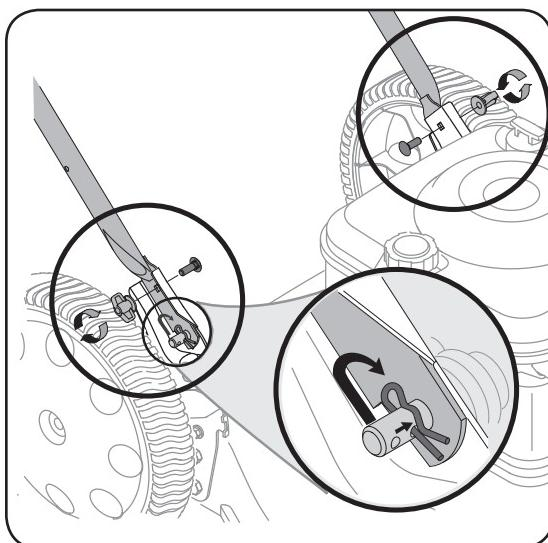

Figure 2
b. Place one carriage bolt (found in the hardware pack included with your unit) in the upper hole of the right handle mounting bracket from the inside outward. See Figure 2. Secure with one wing nut (star knobs). Repeat process on the left side.